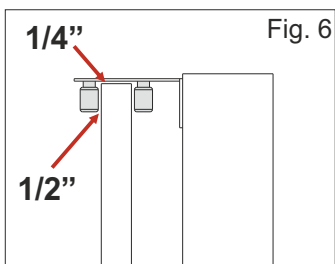
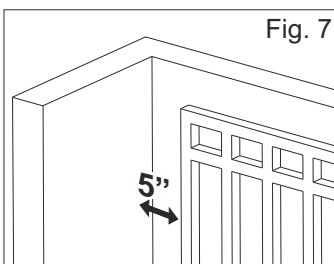

Fig. 6
Fig. 7
- F** - The distances indicated on Fig. 6 are respected; the distance between the end of the gate (in maximum opening position) and the eventual wall must be at least of **5 inches**, to allow the complete sliding without impact (Fig. 7)